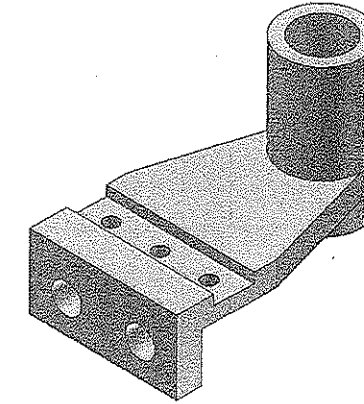

Figure 7-30 Model for Tutorial 2
In this tutorial, you will download the `c07_ansWB_tut02.zip` from www.cadcim.com and extract it to save the `c07_ansWB_tut02.igs` file in the project folder. After extracting, import the igs file into ANSYS Workbench. Next, you will generate a mesh and then optimize the model for further use. The model after importing into ANSYS Workbench is shown in Figure 7-30.
- Orient the model by using the tools available in the **Graphics** toolbar, refer to Figure 7-30.